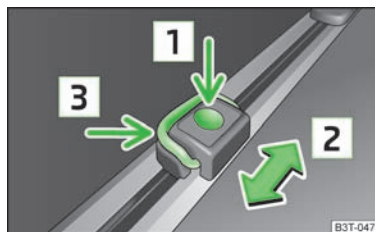

Fig. 78
- Press the button **1** » Fig. 78 and push the lashing eye in the desired position in the direction of the arrow **2**.
- Fold up the clamp **3** » Fig. 78 and, for example, attach the fixing net.